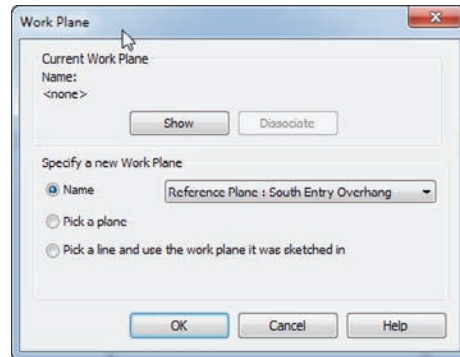

FIGURE 7.50 Selecting the South Entry Overhang reference plane
- When you start the command, Revit will ask you to specify a reference plane. Select Reference Plane: South Entry Overhang from the Name drop-down list, as shown in Figure 7.50.